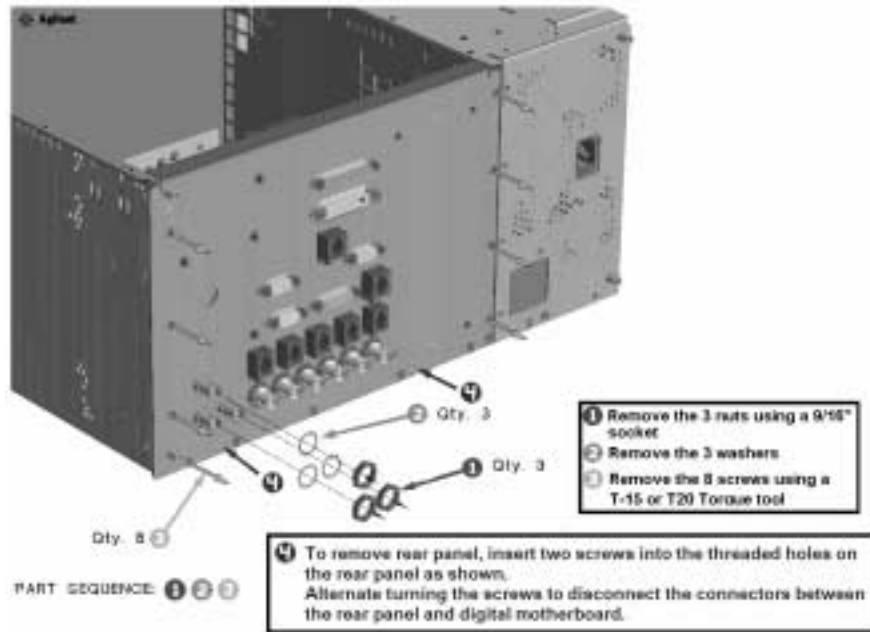

Figure 1
3. Remove the nuts from the following BNC connectors: COUNTER IN MAX, 10 MHZ REF IN and OUT. (see Figure 1 steps 1-2)
4. Remove the 8 screws holding the rear panel sheet metal to the unit. (see Figure 1 step 3)
5. Remove the rear panel from the instrument and disconnect the green cable from the time base. (see Figure1 step 4)